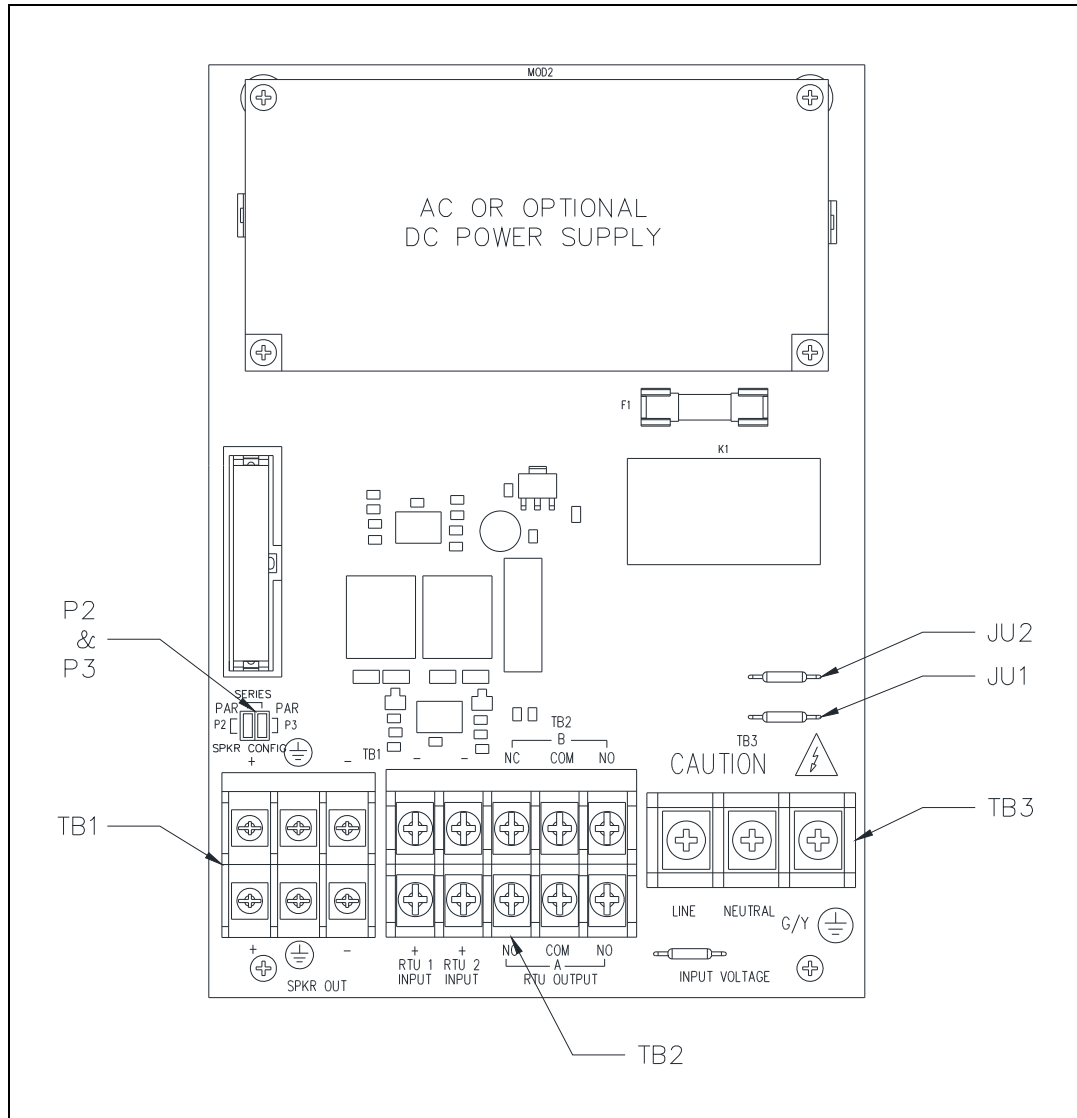
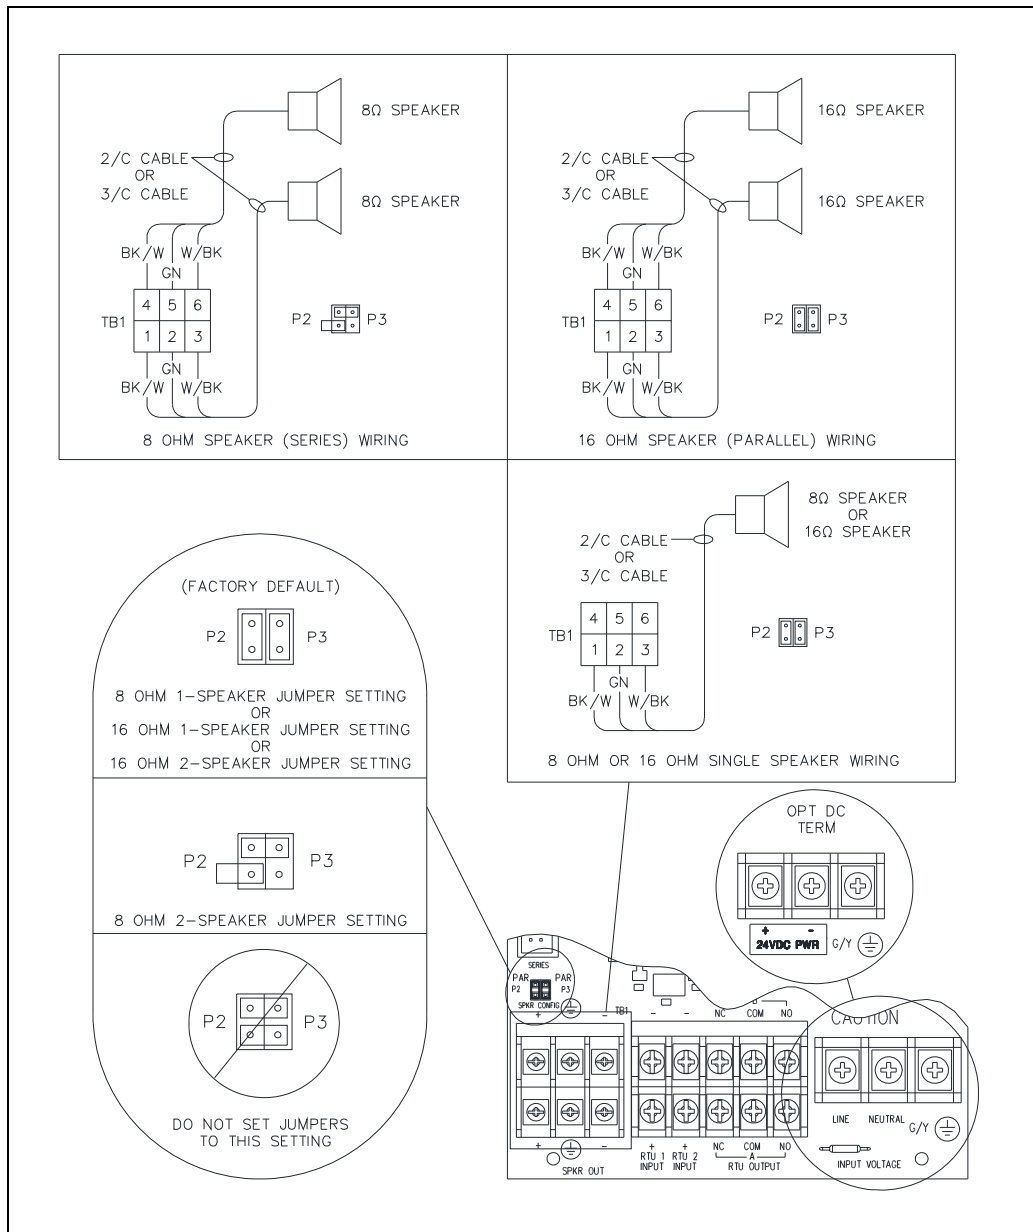
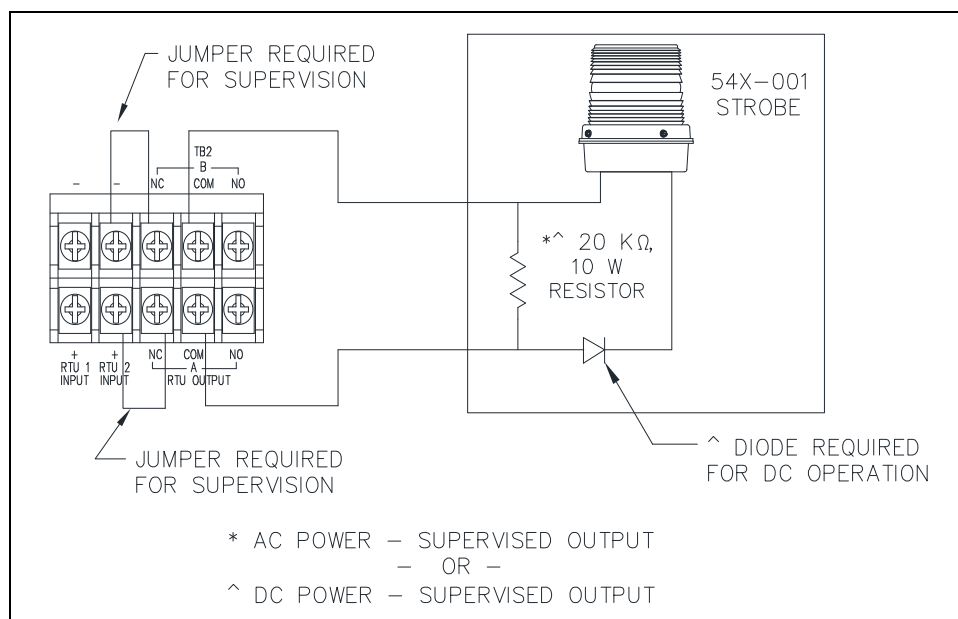

Figure 4. SP2 Standard Termination PCBA
Figure 5. 8/16-ohm Speaker Impedance Configuration and AC/DC Termination at TB3
Figure 8. Supervised Output Wiring—TB2
5. Configure the speaker jumpers, P2 and P3, for the appropriate impedance for use with 8-ohm or 16-ohm speakers (see Figure 4 and Figure 5).
The standard termination PCBA contains two auxiliary RTU inputs. The optional 70V/100V termination board provides speaker line monitoring and has just one auxiliary RTU input. Terminate the inputs at terminal block TB2 (see Figure 4).
Two form C contacts are provided to power a beacon (see Figure 8). Terminate the output at terminal block TB2 (see Figure 4). Remove jumpers JU1 and JU2 to configure the output for dry contact use.
5. Install a 20-kilohm 10-watt resistor across the terminals of the beacon (see Figure 8).
6. Install jumpers at terminal TB2 to enable cable monitoring (see Figure 8).
The ac or optional dc power supply is on the termination PCBA. Connect the local ac or dc power source to terminal block TB3 (see Figure 4):